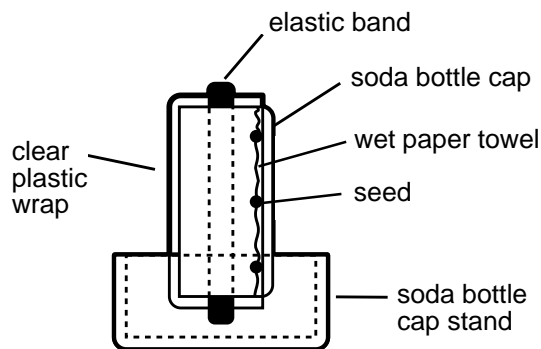

Figure 2: Side view of bottle cap seed germinator.
6. Position the "bottle cap seed germinator" so the seeds are in a vertical orientation by standing it in a second bottle cap (Figure 2).